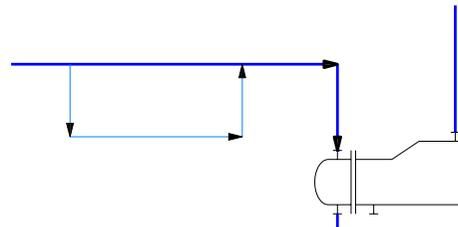

Figure 2-43 Loop created on line connecting the steam inlet nozzle
- Choose the **Secondary Line Segment** tool from the **Lines** tab in the **TOOL PALETTES - P&ID PIP** and create a loop on the line connecting the steam inlet nozzle of the heat exchanger, as shown in Figure 2-43.